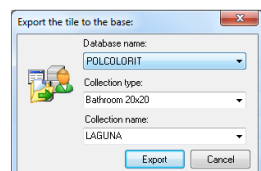

Fig. 379– exporting a tile
- **Export the tile to User Database** – exports selected tile from another (producer) database to the **User Database** (Fig. 379); (also under the keyboard shortcut **<Ctrl + E>**);